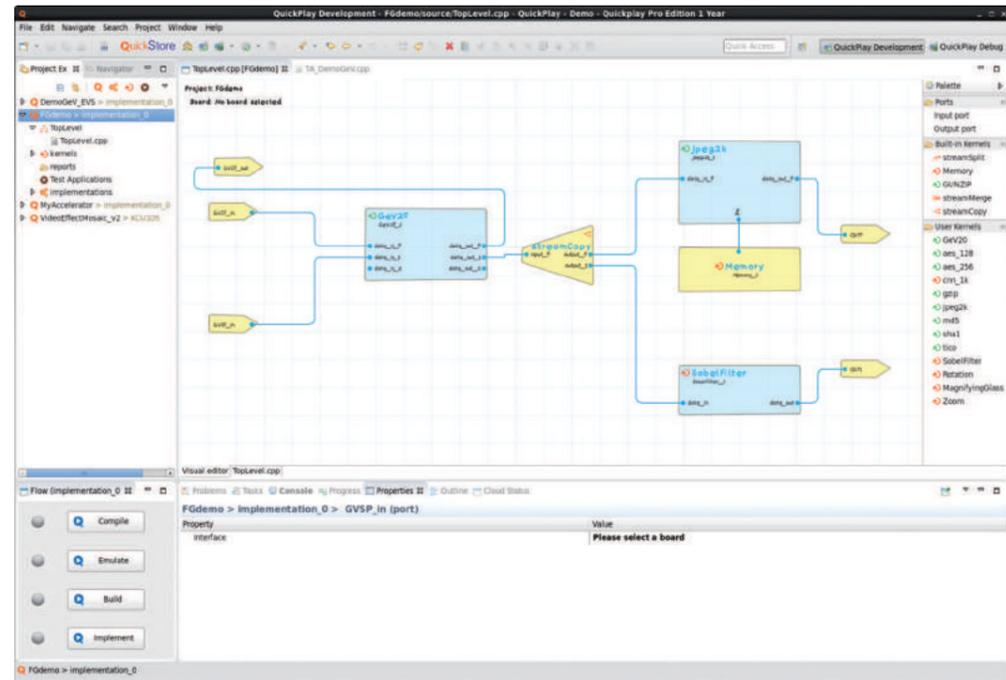
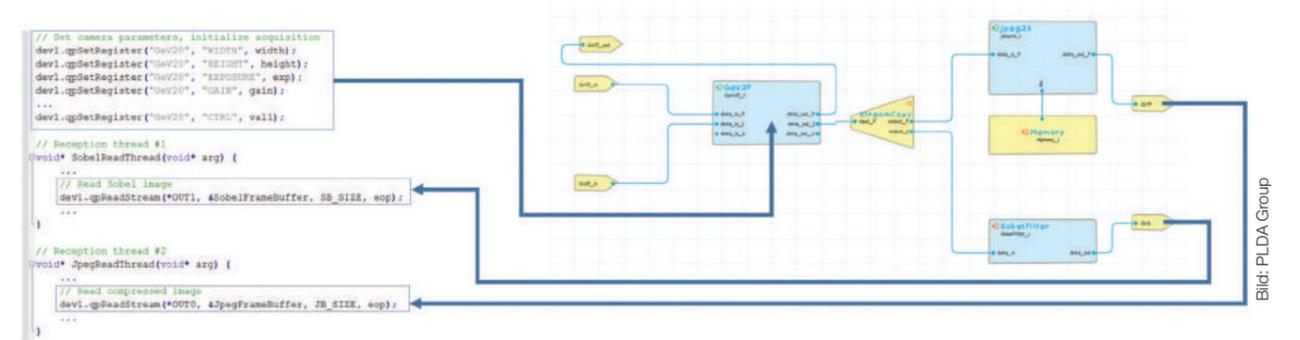

Figure 1 | A 10GigE Vision intelligent frame grabber is created by using the Software-defined FPGA development environment Quickplay.
Figure 2 | Subset of the QuickPlay API. It illustrates the communication between software application and FPGA design.
bedded pre-processing is a straightforward process in the Quickplay IDE. As illustrated in Figure 1, the user drag & drops required processing blocks (IP) from the built-in library, from the catalog of QuickStore IP, or inserts his own processing kernels in C or Verilog/VHDL, and creates a dataflow representation of the FPGA design. This is accomplish-
hed graphically or in C++, as preferred. The dataflow modeling is based on a streaming architecture, perfect for real-time video processing. This specification of the hardware design is done at the highest level of abstraction, without reference to any hardware element such as clocks, resets, busses and wires, FIFOs and DMA engines, etc. In figure 1 example, a 10GigE Vision intelligent frame grabber is created by inferring one GigE Vision 2.0 controller IP and associated ports for data and control (including GVSP and GVCP), a 2:1 packet splitter, a JPEG 2000 compression IP and its memory buffer, and a Sobel edge detection filter kernel developed in C. Both the compressed video and Sobel-processed video are pushed out using two separate output ports. This is just one example of an intelligent frame grabber that performs in parallel on the 10G video stream JPEG 2000 compression as well as contour detection, however the ability to insert custom processing kernels in C or in Verilog/VHDL and IP from Quickstore provide endless possibilities. The second step in the development process is the validation of the dataflow model created in Quickplay, using Linux native gcc compiler and gdb debugger. Validation requires linking the design model to either a unitary test application or to the final application (i.e. the frame grabber application software), using the QuickPlay API. Figure 2 presents a subset of the API and illustrates the communication bet-